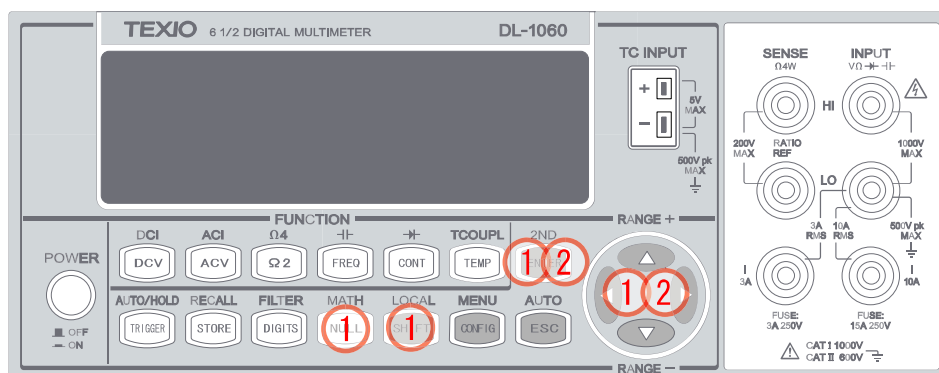

Figure 3-26
1. Do the procedure SHIFT + NULL > MX+B > ENTER > SET M/SET B > ENTER to access the setting as shown in **Figure 3-26**